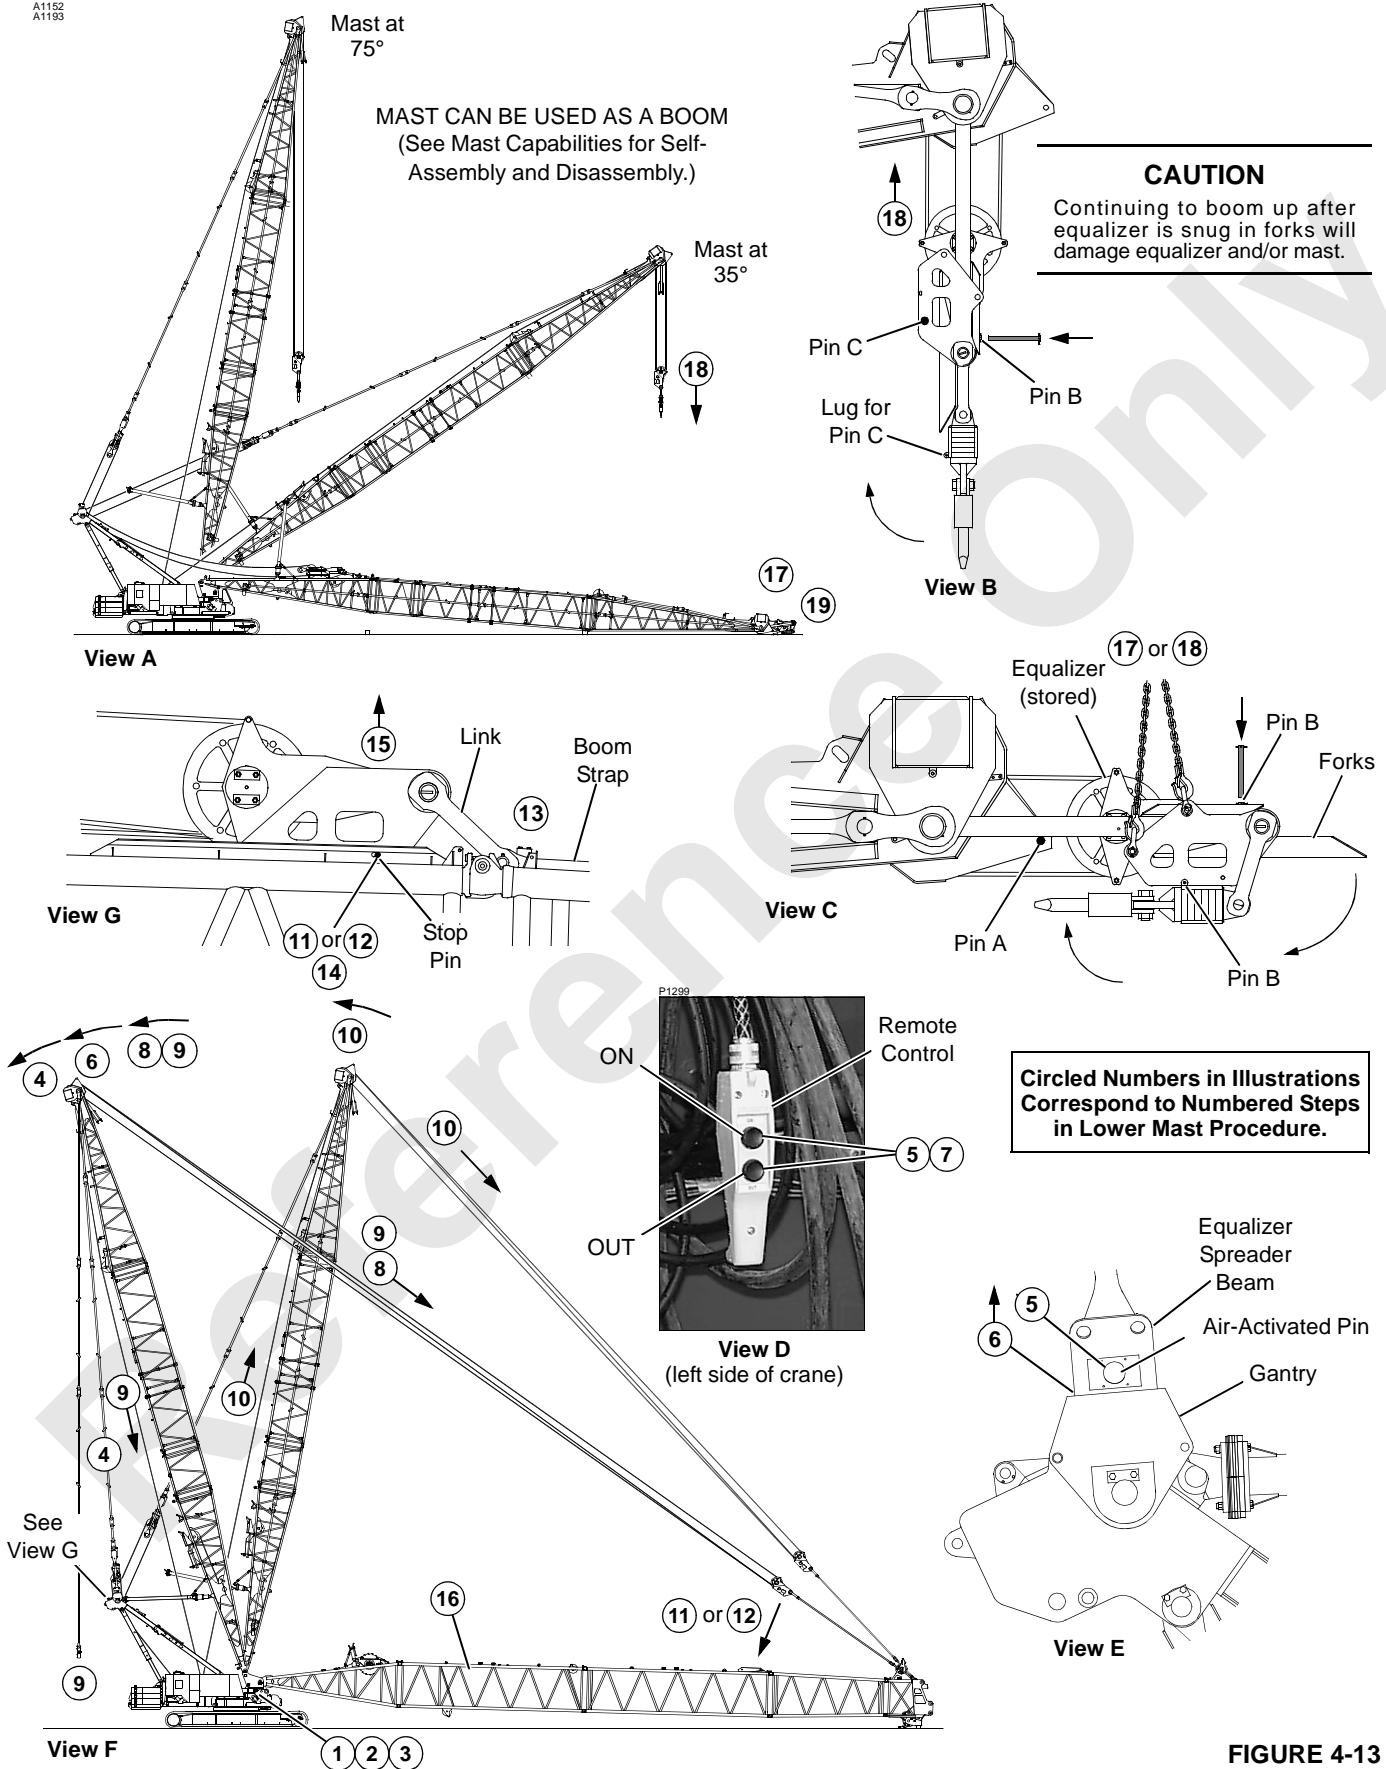

FIGURE 4-13
**NOTE:** Axle wedges must be in operating position for crane operation (Figure 4-13).
See Figure 4-13 for the following procedure.